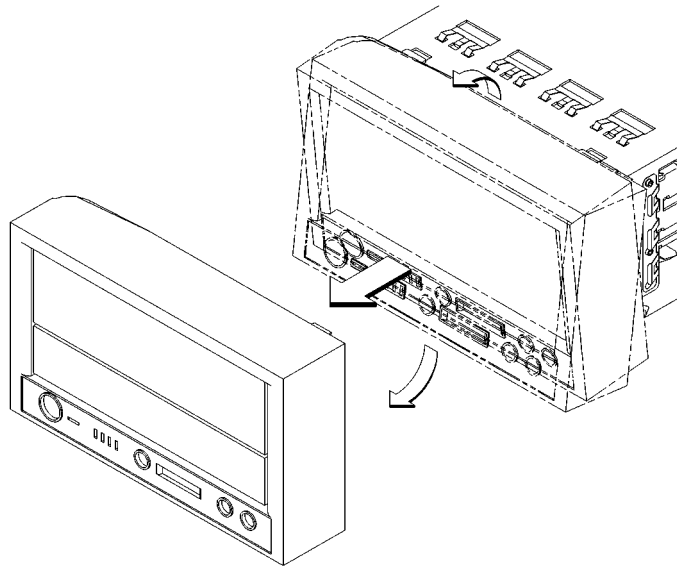

Figure 32 **Removing the Storage Tray Bezel**
- 1 To remove the storage tray bezel, lift up on the top rear edge of the bezel and slide it out from the storage tray approximately 1/2-inch, as shown in Figure 32.
- 2 Pull down on the bottom rear edge of the bezel and slide it out from the storage tray approximately 1/2-inch, as shown in Figure 32.
- 3 Pull the bezel straight out from the storage tray, as shown in Figure 32.